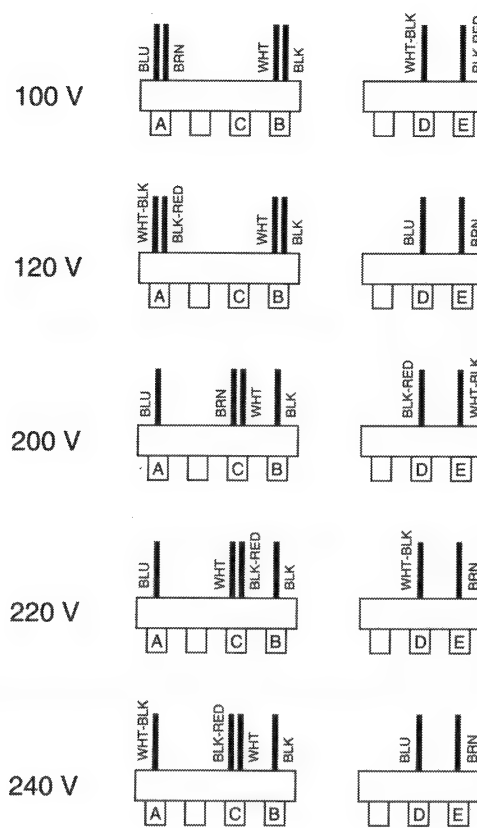

Fig. 3.9 AC Mains Voltage Conversion
5. Determine the correct connections from the following diagram (Figure 3.9), unsolder the leads that need to be moved and solder them in their new positions.